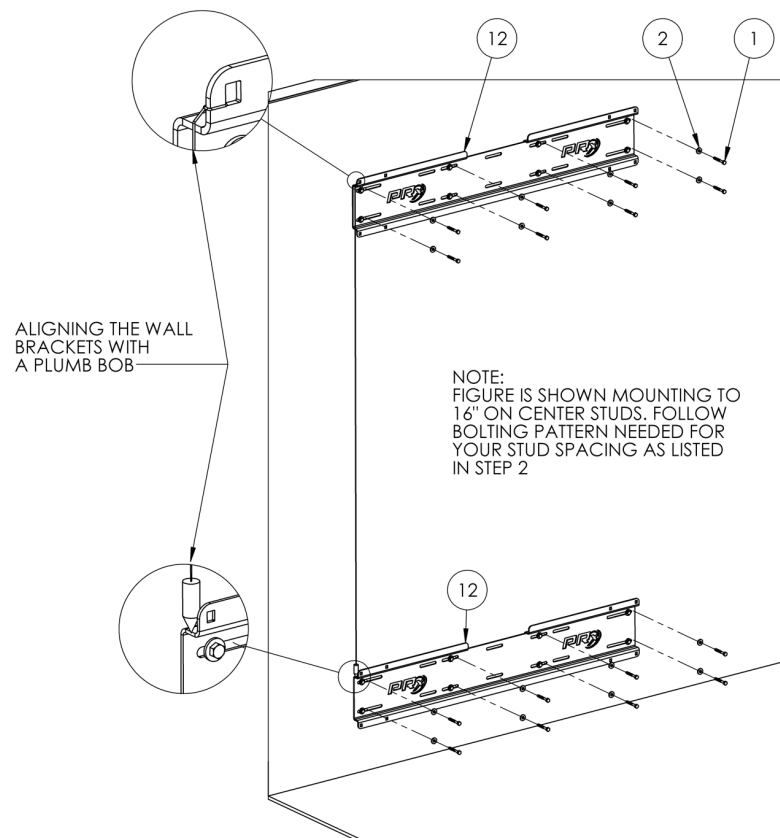

Figure 2: Installing the lag screws
8. Install the second 5/16" lag screw (1) and 5/16" flat washer (2) through the top hole of the wall bracket. Do not fully tighten the lag screws.
10. Drill pilot holes and install the rest of the upper wall bracket lag screws into the marked studs **(Figure 2)**.
13. Drill pilot holes and install the rest of the lower wall bracket lag screws into the marked studs **(Figure 2)**.